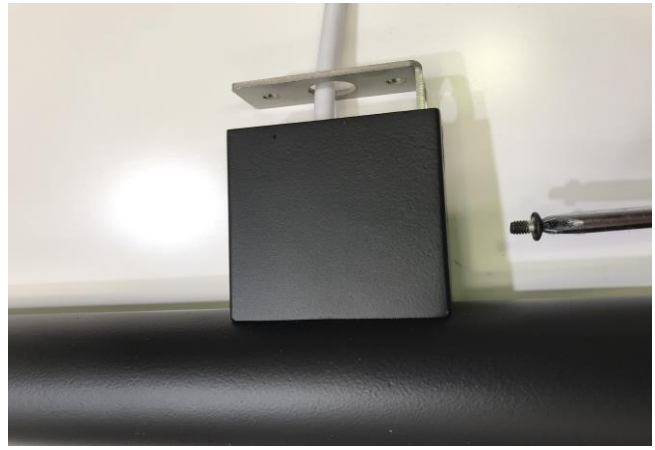

Fig 2 Concealed wiring
If you have access to the wall cavity this model allows you to conceal the electrical flex for a more streamlined and visually appealing installation. (see Fig 2 below)
**CONCEALED FLEX INSTALLATION (Fig 2)**